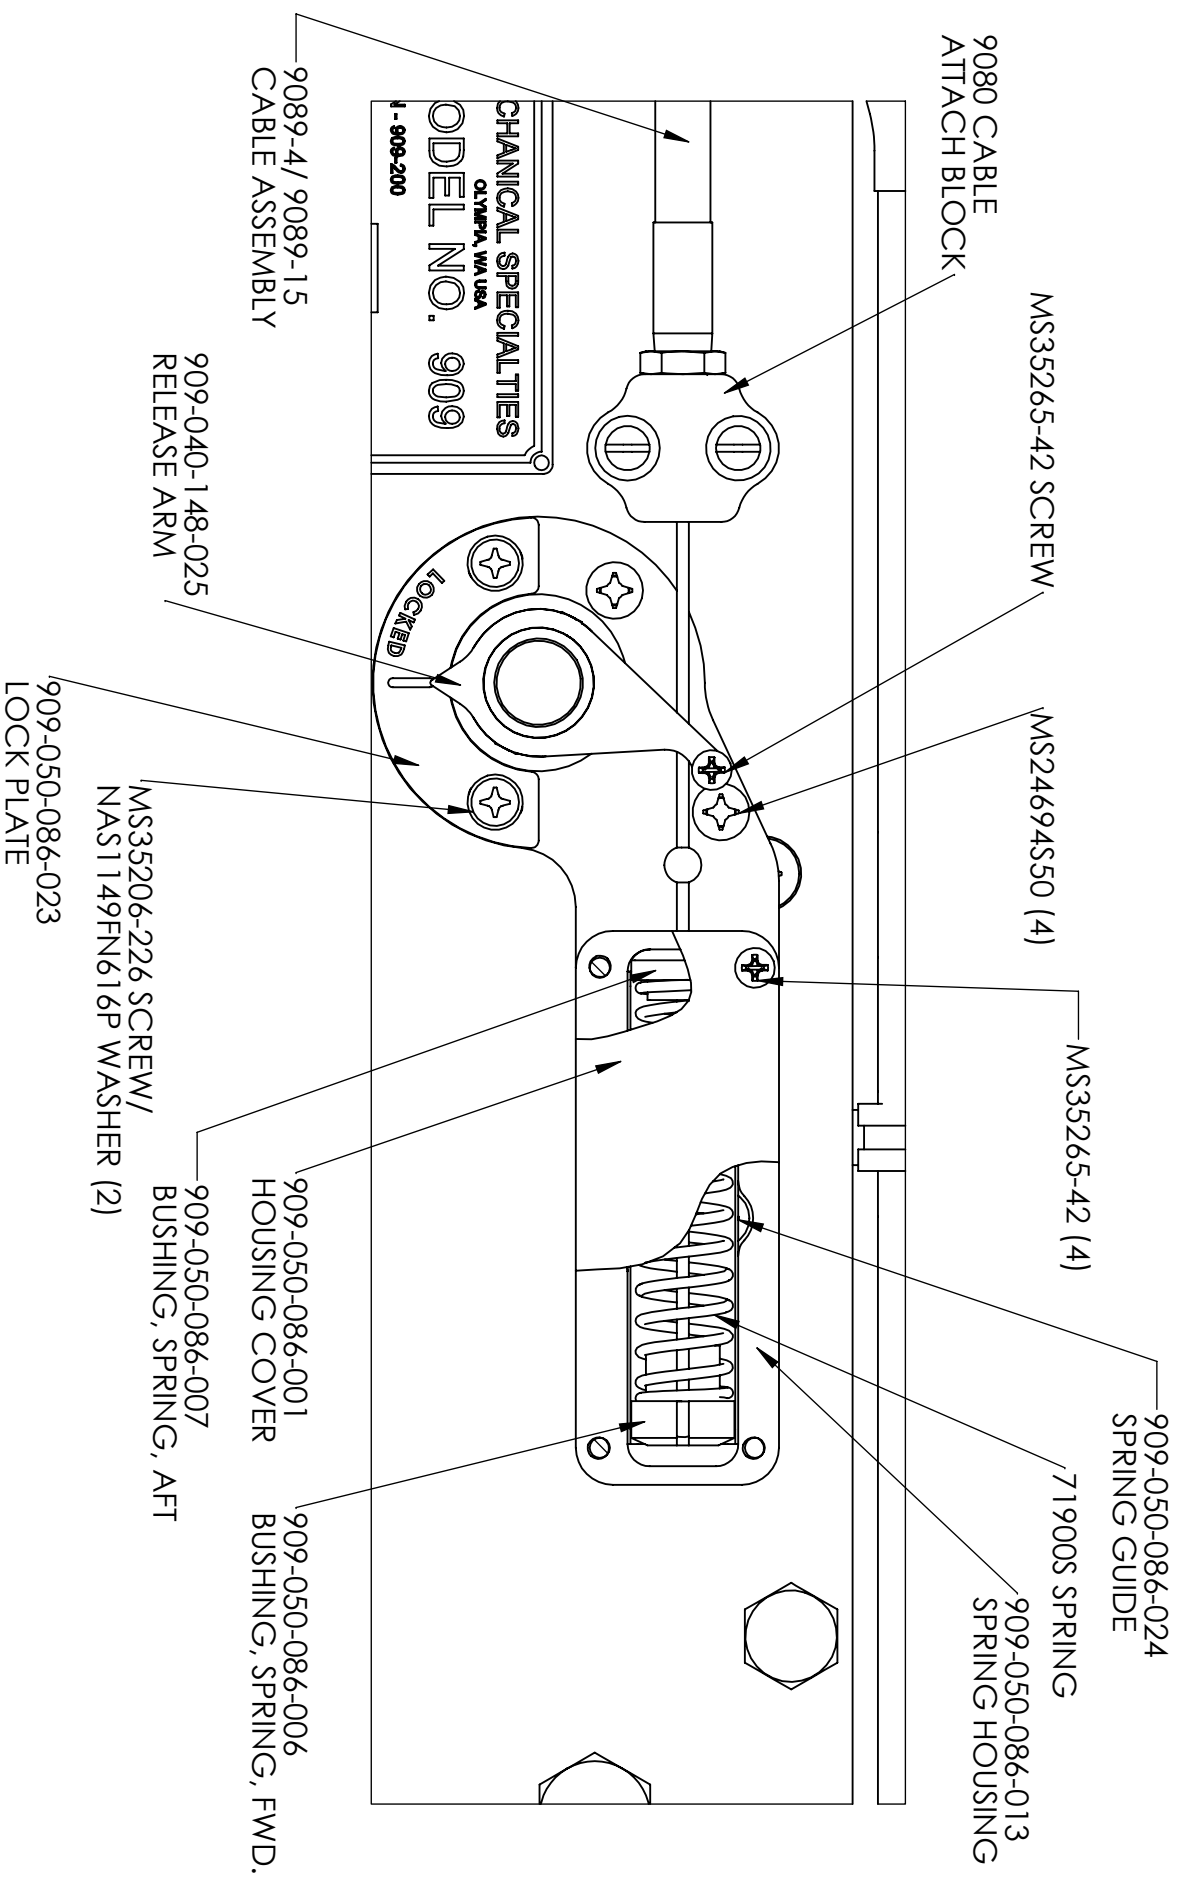

FIG. 2
1. (REF. FIG. 2) REMOVE EXISTING 9085-1 COVER PLATE, 6060-1 MANUAL RELEASE KNOB AND 6148-1 RELEASE ARM.
2. (REF. FIG. 2) INSTALL 909-050-086-013 SPRING HOUSING WITH SUPPLIED MS24694S50 SCREWS.